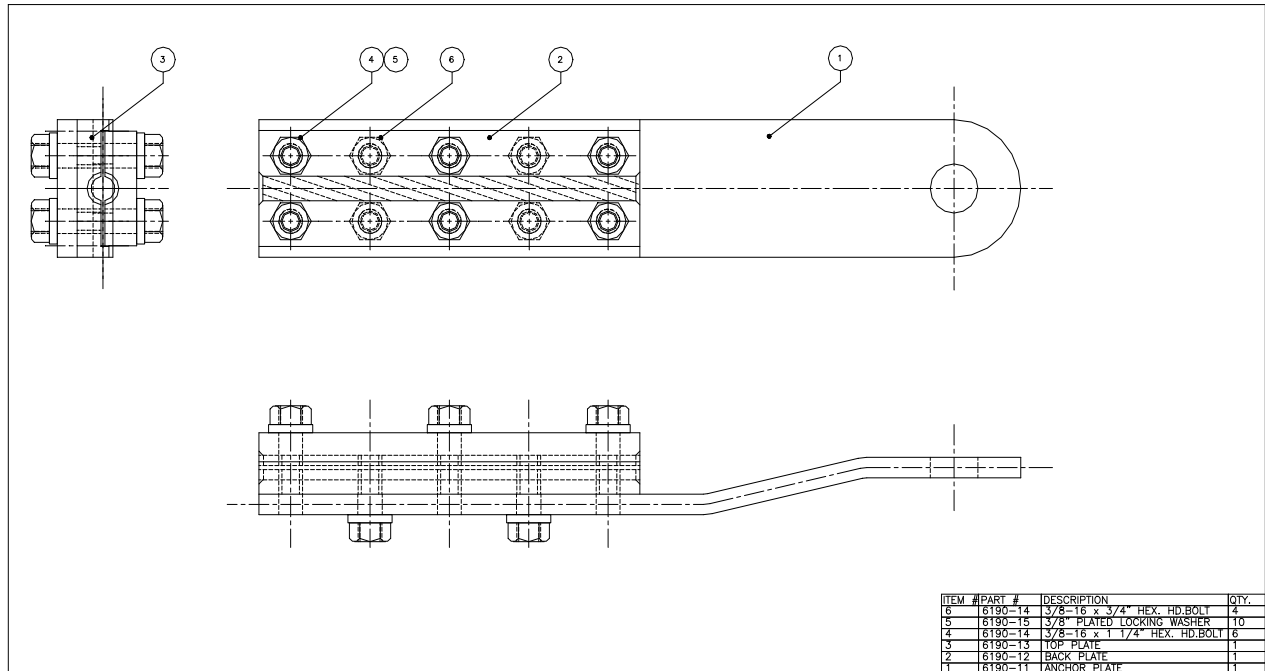

Figure 1
1. Remove the 6 bolts in the cap (top) plate (see Figure 1) and remove the cap plate from the cable clamp.